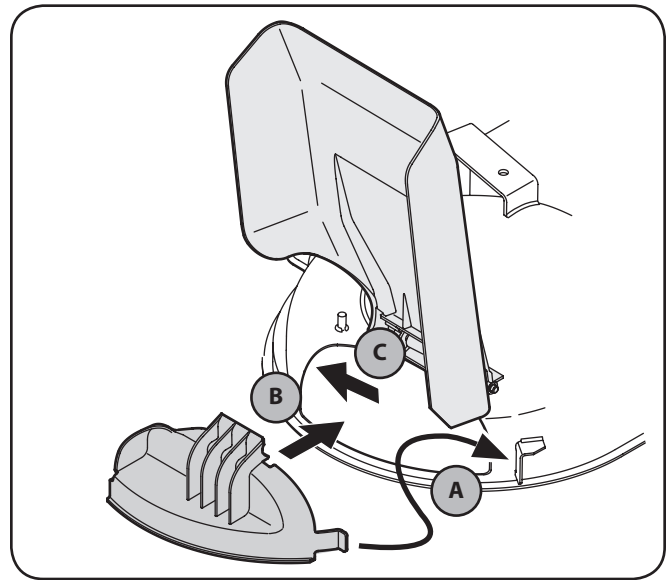

Figure 5-1
1. Insert the right-side tab (A) of the baffle into the bracket on the deck. See Figure 5-1.
2. Insert the mulch baffle into the discharge opening (B). See Figure 5-1.
3. Once it's positioned in the deck opening, push the baffle towards the rear of the mower (C) to secure it in place. See Figure 5-1.